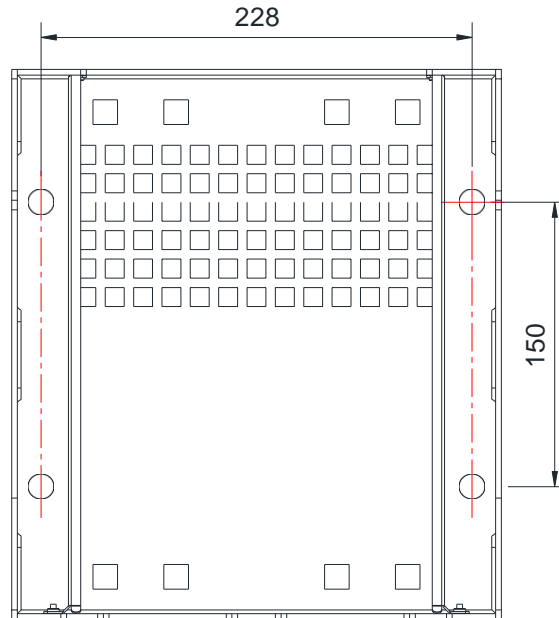

Figure 4 Wall-mounting Drilling Dimension Diagram
Step1: Demount the mounting rack from the MRU, use percussion drill to drill 4 pole of $\Phi 14$ with 65-75 mm depth, as shown in Figure 4.